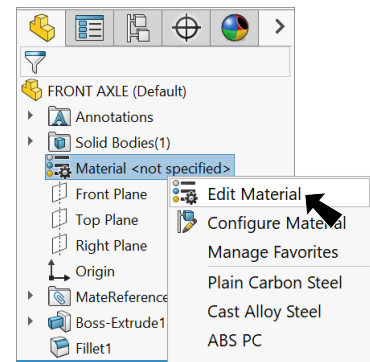

Fig. 10
Step 1. Right click Material  in the Feature Manager and click Edit Material, Fig. 10.